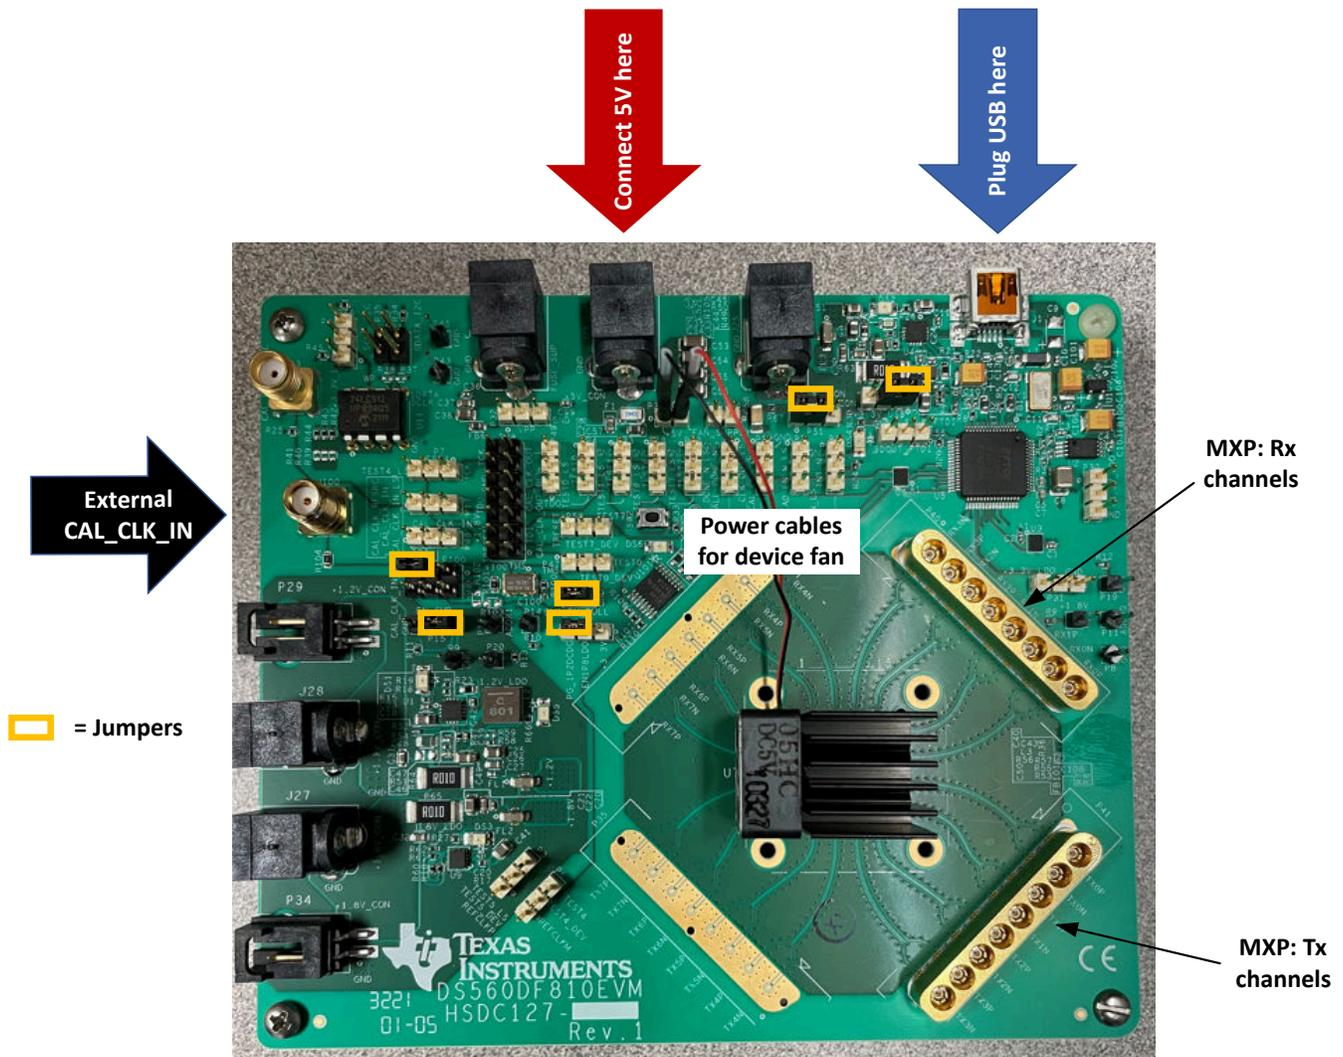
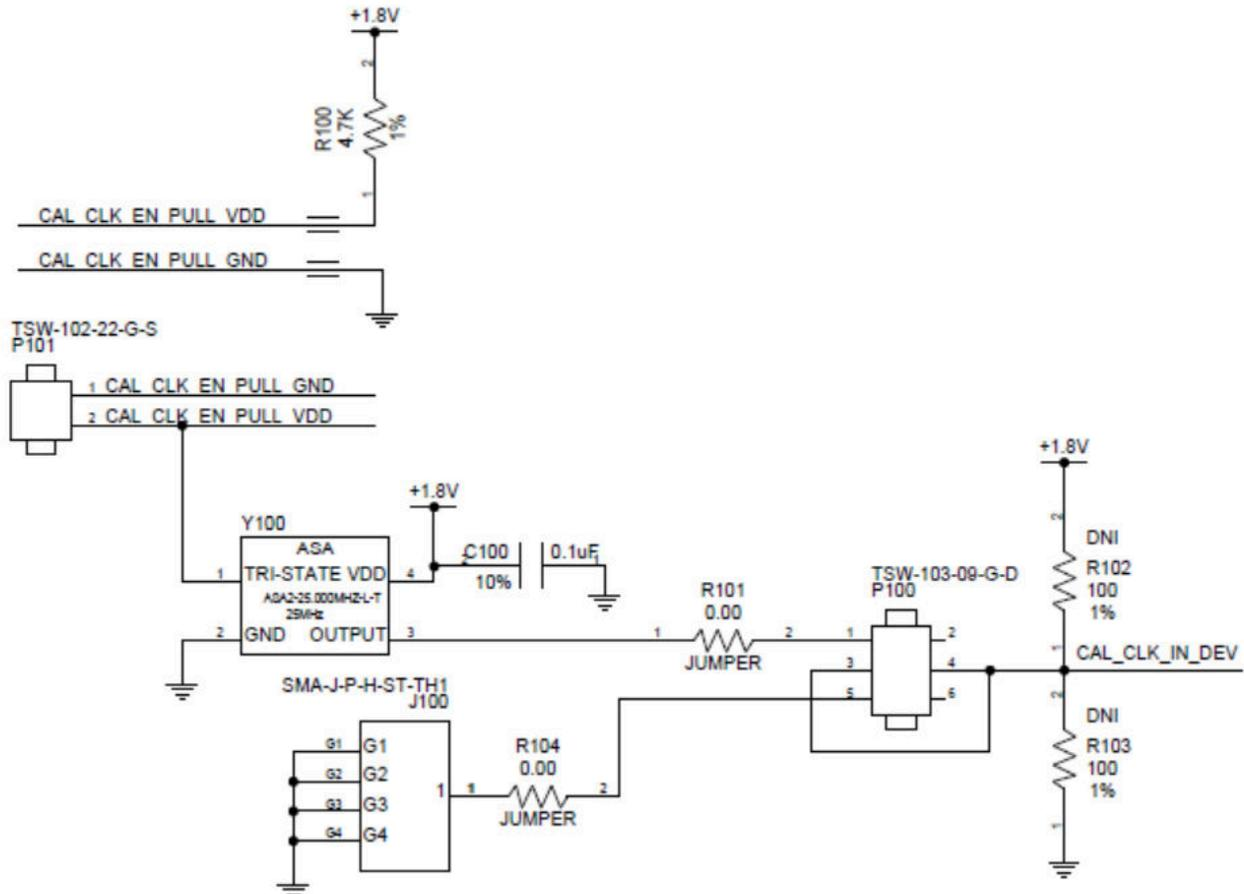

Figure 1-1. DS560DF810EVM Power, Low-Speed Communication, and High-Speed Signaling Connections
Figure 1-3. DS56DF810EVM Schematic Portion for CAL_CLK_IN Input Circuit; Applies to EVM Version Rev 2 and Later
Figure 1-1 shows how the DS560DF810EVM implements a power management solution to enable operation off of a single 5 V/3 A supply (the 5 V connector location is shown in the following figure). The EVM board uses Megtron-6 low-loss dielectric material for its high-speed differential inputs and outputs. The EVM by default implements a pair of MXP connectors to provide robust and high-quality connectivity to its first quad of high-speed channels (for example, retimer channels 0 thru 3.) The EVM also has provision for an EEPROM to be used to program the retimer device.
1. Check the EVM jumper settings to ensure they match Figure 1-1.
Figure 1-3 shows the schematic segment for CAL_CLK_IN. As per the schematic, different jumper placements are used to enable implementation of external CAL_CLK_IN signal or onboard 25 MHz oscillator respectively. For EVM version Rev 2 or later the end user may implement an onboard oscillator to supply the 25 MHz signal for the retimer CAL_CLK_IN input. The EVM version is listed on the bottom right corner of the evaluation board (Figure 1-1 shows the location).